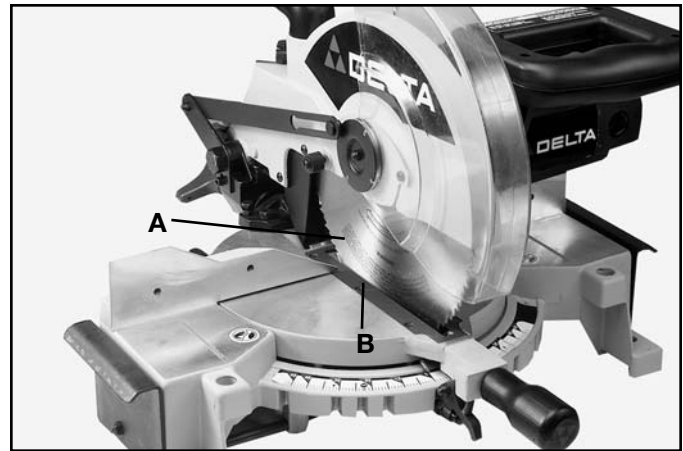
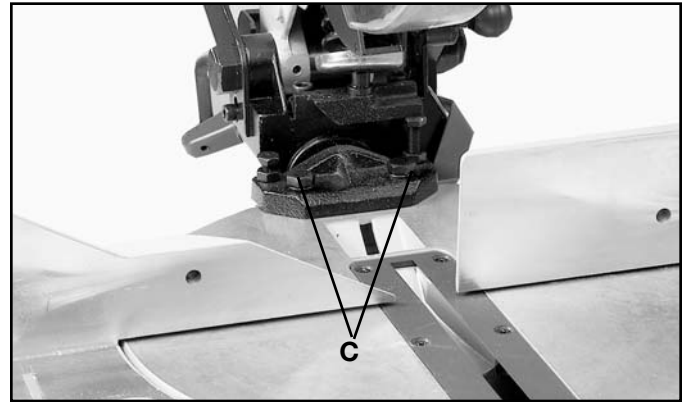

Fig. 33
Fig. 34
2. Lower the cutting arm. The saw blade (A) Fig. 33, should be parallel to the left edge (B) of the table opening.
3. If an adjustment is necessary, raise the cuttinghead, loosen screws (C) Fig. 34, and move the cutting arm until the blade is parallel with the left edge (B) Fig. 33 of the table opening. Then tighten the two screws (C) Fig. 34.